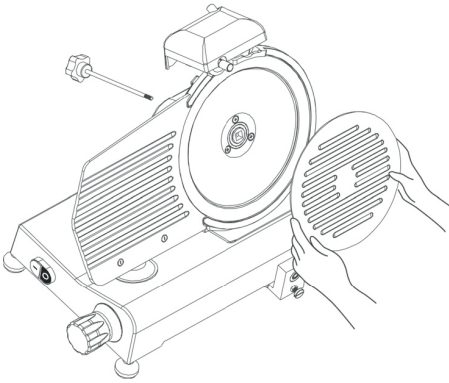

Fig. 4
- Remove the blade guard cover by unscrewing the pin at the back of the appliance (see Fig. 4).